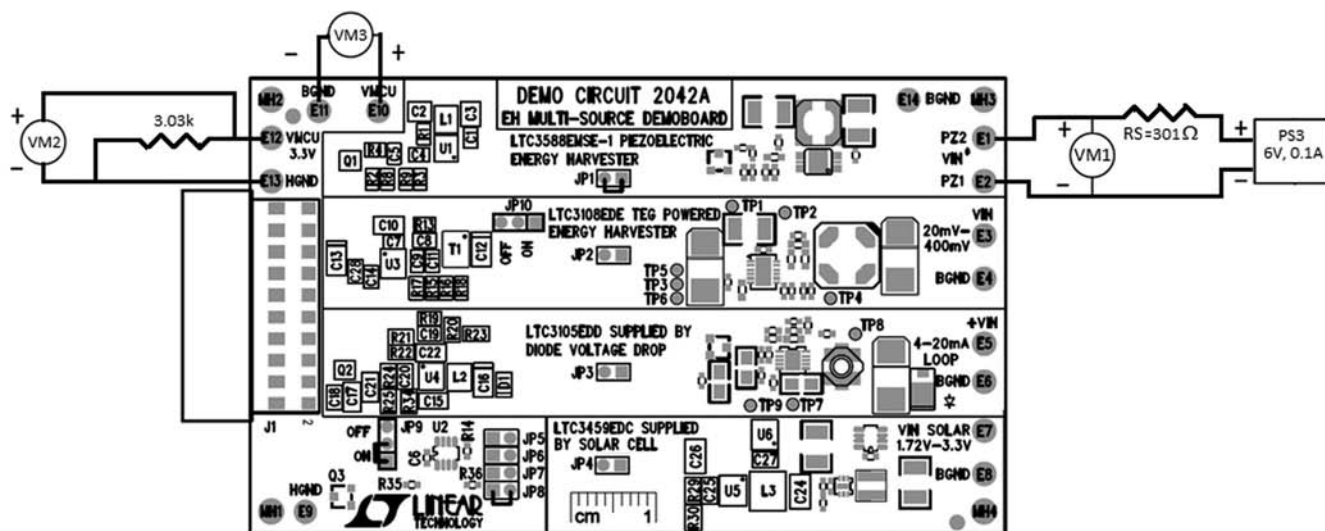

Figure 4. Piezoelectric Circuitry Test Setup (Test Steps 10 to 13)
10. **MOVE JP4 to JP1.** Disconnect PS2 from the board. Set PS3 equal to 6.0V. Reconfigure the test equipment as shown in Figure 4.